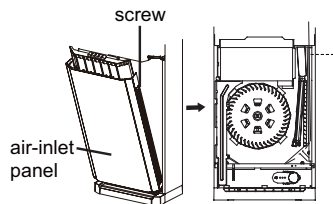

Fig.4
1. Take out the left and right screw cover and then remove the screws on air-inlet panel to remove the panel. (As show in Fig.4)